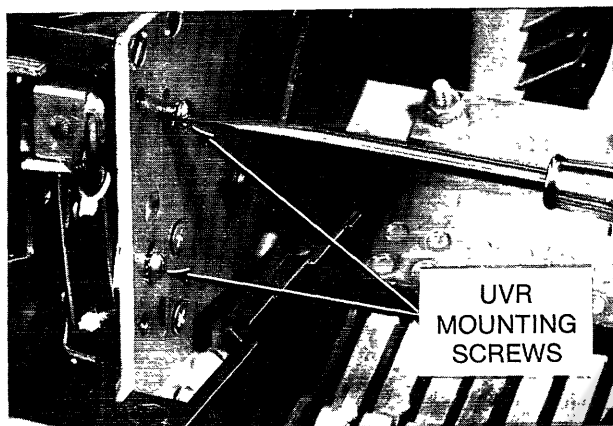

Fig. 3. View showing mounting screws
4. Place the undervoltage release device inside the circuit breaker mechanism frame as shown in Fig. 3.